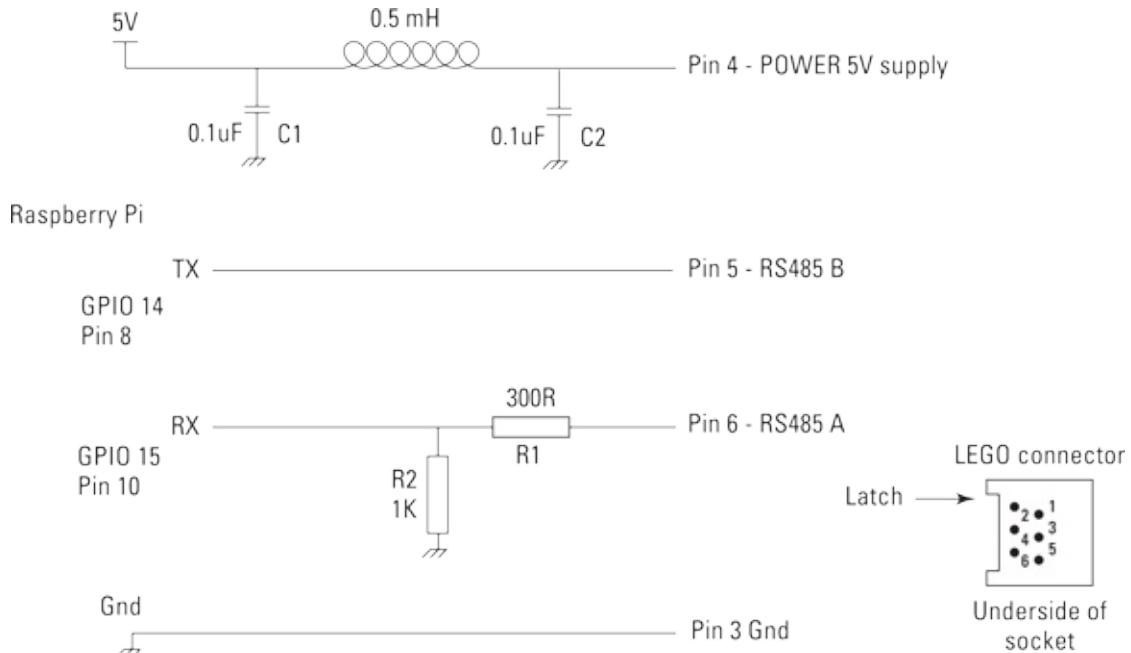

Figure 15-19: The Raspberry Pi–LEGO sensor interface.
To talk to the sensor with a Raspberry Pi instead of the EV3 brick, you need to understand this message structure and be able to replicate it. But first you have to connect the sensor and Pi together. The circuit to do this is shown in Figure 15-19, and it's pretty straightforward. The GPIO pins brought out to the Raspberry Pi's connector include two whose alternative functions include a serial port; these two pins are GPIO 14 and 15. The transmit pin (TX) can be connected directly to the sensor's receive pin, but the 5V output from the sensor needs to be cut down with a potential divider to bring it into the 3V3 range.